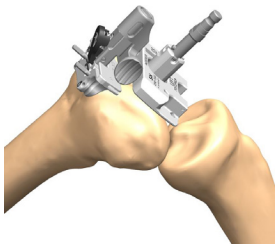

Figure 75
- 5. Push the button on the Valgus Bridge to remove the alignment assembly from the incision site (Figure 75). Only the distal cutting block should remain on the femur.